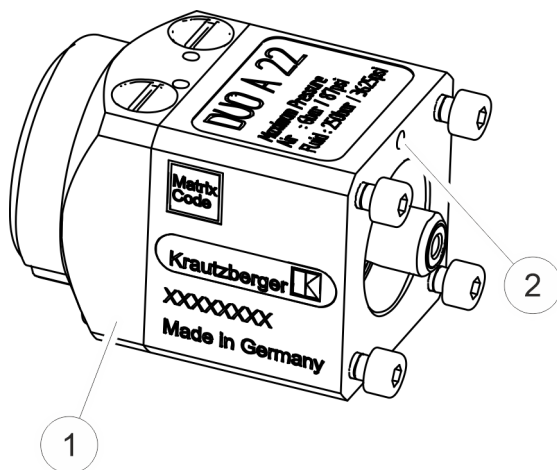

Fig. 34: Installing the main element
2. ➔ Press the head section ( Fig. 34/1) against the main element and tighten through the drill hole ( Fig. 34/2) with an Allen wrench.